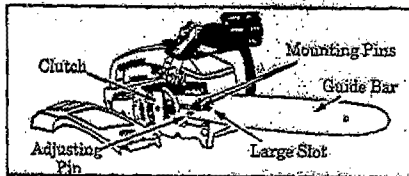

Figure 8
2. Mount the guide bar with the large slot over the bar stud and the small adjusting pin through the small hole in the bar. Figures 8 & 9.